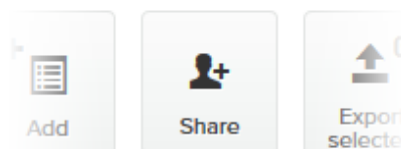

Figure 76. Plug-ins web page (Share button)
4. Click the **Share** button in the upper left-hand corner of the **Plug-ins** web page (Figure 76 \(page 168\)).